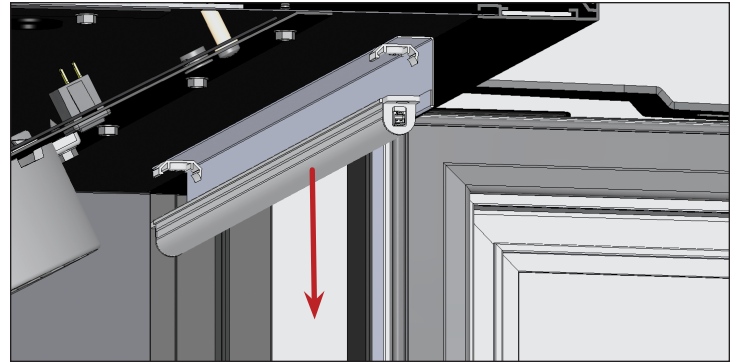

Fig. 1. Unsnap the LED module from its holders.
2. Remove the LED module from the LED holders. See fig. 1.